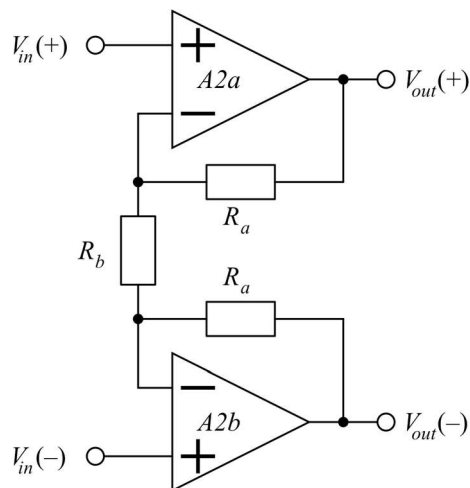

Figure Q3a
- a) Figure Q3a shows the circuit schematic of part of an instrumentation amplifier. Show that the expressions for the differential and common mode gains of the circuit in Figure Q3a are given by:
- b) Including the circuit fragment shown in Figure Q3a, draw the diagram of a traditional three-opamp instrumentation amplifier. Write down expressions for the differential and common-mode gains of the complete circuit. [5]